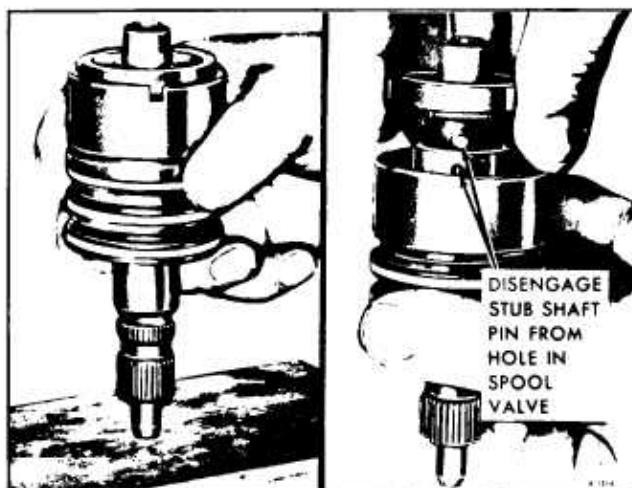

Figure 34-Removing Shaft Cap from Valve Body
a. While holding the assembly (stub shaft down), lightly tap the stub shaft against the bench until the shaft cap is free from the valve body (figure 34).
c. Carefully disengage the shaft pin from the valve spool and remove the shaft assembly (figure 34).